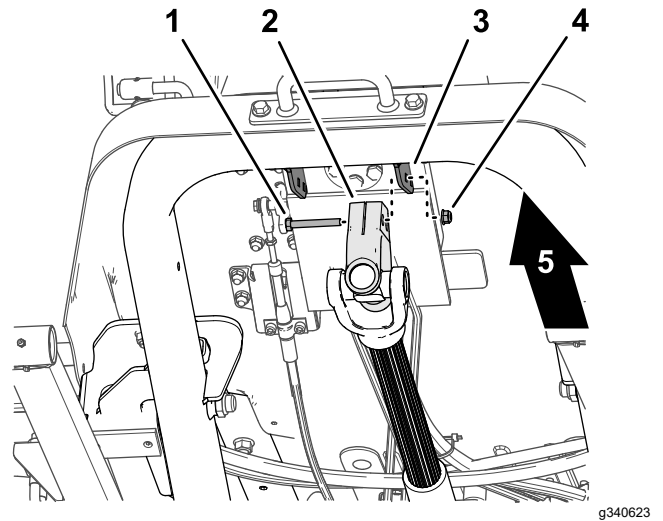

Figure 14
1. While supporting the driveshaft, remove the capscrew and locknut that secure the driveshaft yoke to the steering valve-mount bracket (Figure 14), and carefully lower the driveshaft.